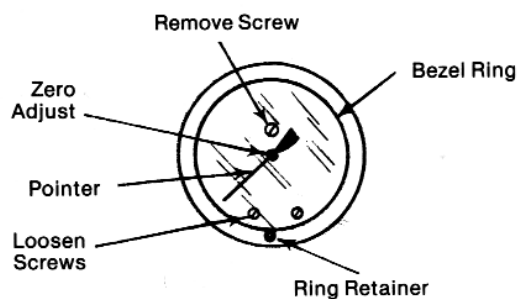

Fig. 1 Front View
1. Remove bezel ring and glass by releasing the retainer screw, Fig. 1.